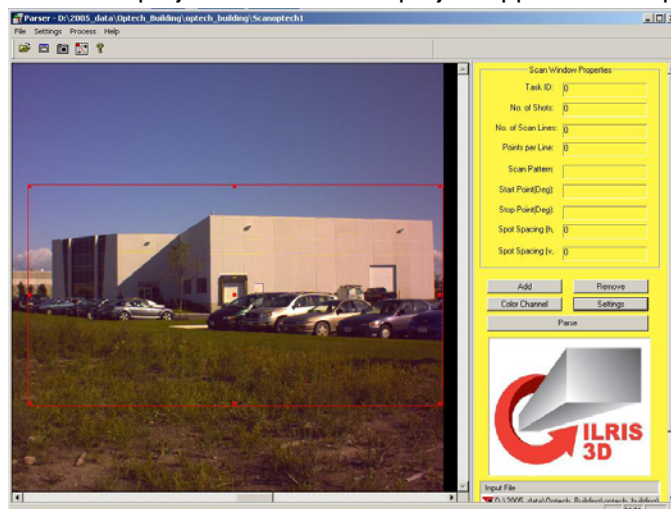

Figure 1: Parser window
| Figure 1: Parser window | 2 |
3. Browse to, and **Open** the scan project file. The scan project appears in the parser window (Figure 1).
3. Browse to the scan project file, and click **Open**. The scan project appears in the parser window (Figure 1).